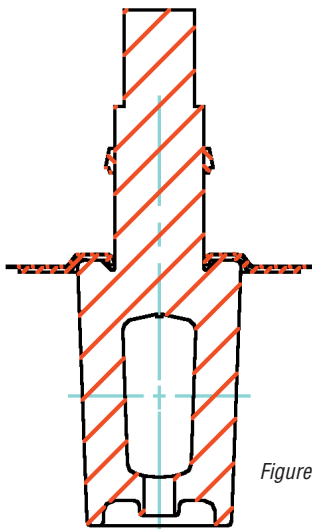

Figure 20
7. The Grafoil packing ring (Part 17) is placed over the stem (Figure 20).